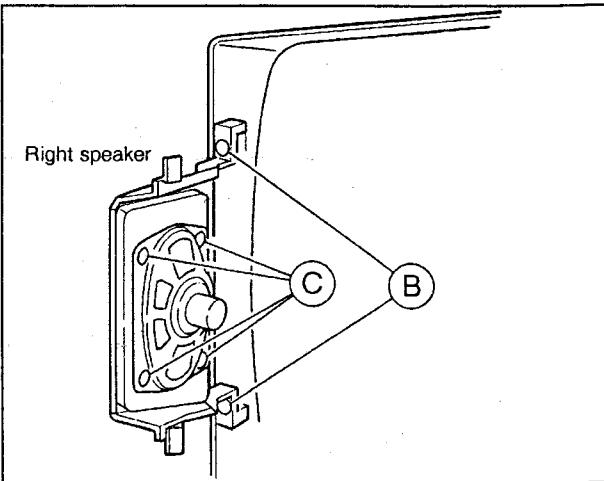

Fig. 3
- Take out 2 screws Ⓑ indicated in Fig. 3.
- ※ Fig. 3 indicates only the right speaker. Remove the left speaker in the same manner.